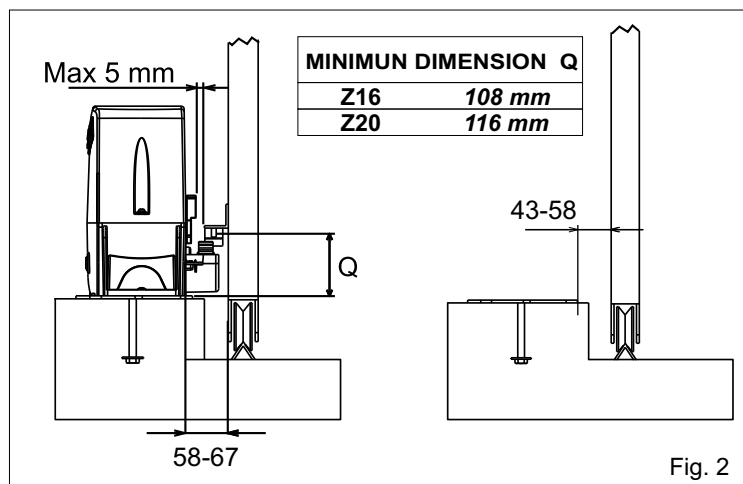
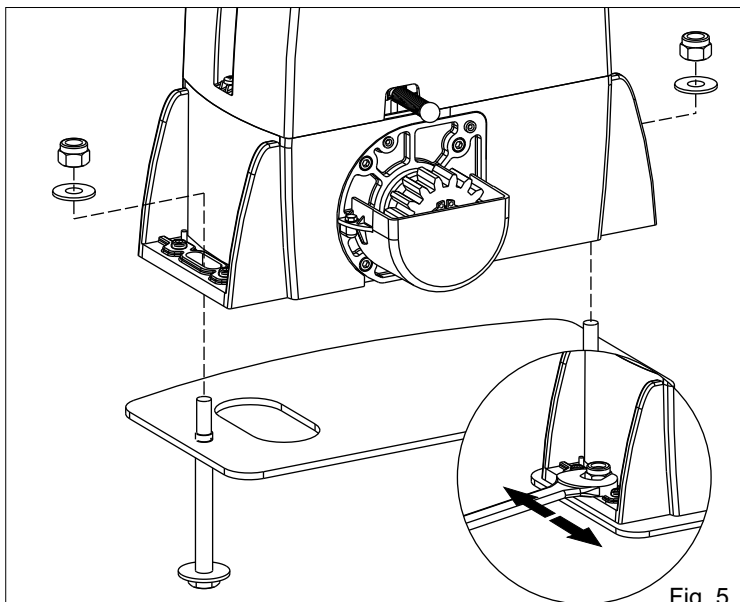

Fig. 2
Fig. 5
**2.3.** Before concreting in the plate, make sure that it is perfectly leveled and that the distance of 50-55mm as shown in Fig. 2 is respected.
**4.2.** Fix the motor reducer to the foundation plate with the 2 included nuts, adjusting the side position (Fig. 5) so to respect the shown quota in (Fig. 2).